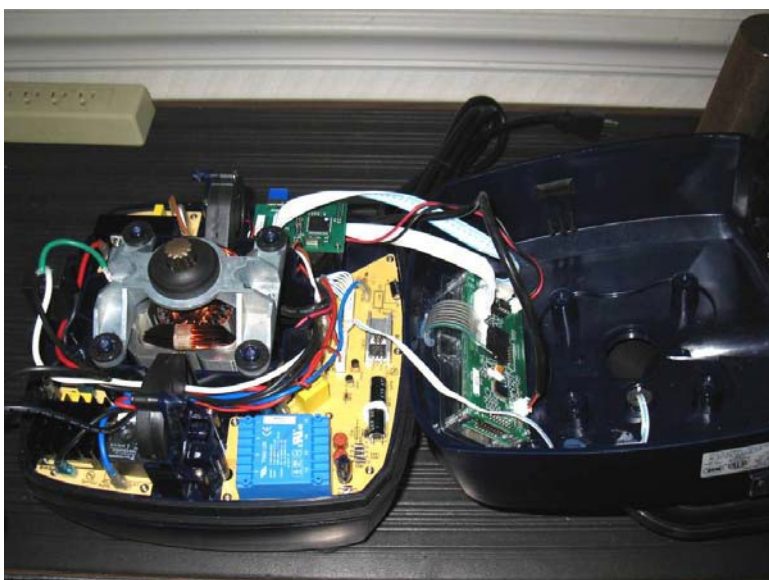

Figure 1. Unit with circuit breaker/on off switch leads disconnected and upper housing positioned to the front of the machine.
- Disconnect the two leads to the circuit breaker/on off switch. Position the upper housing to the front of the machine. (See Fig. 1)